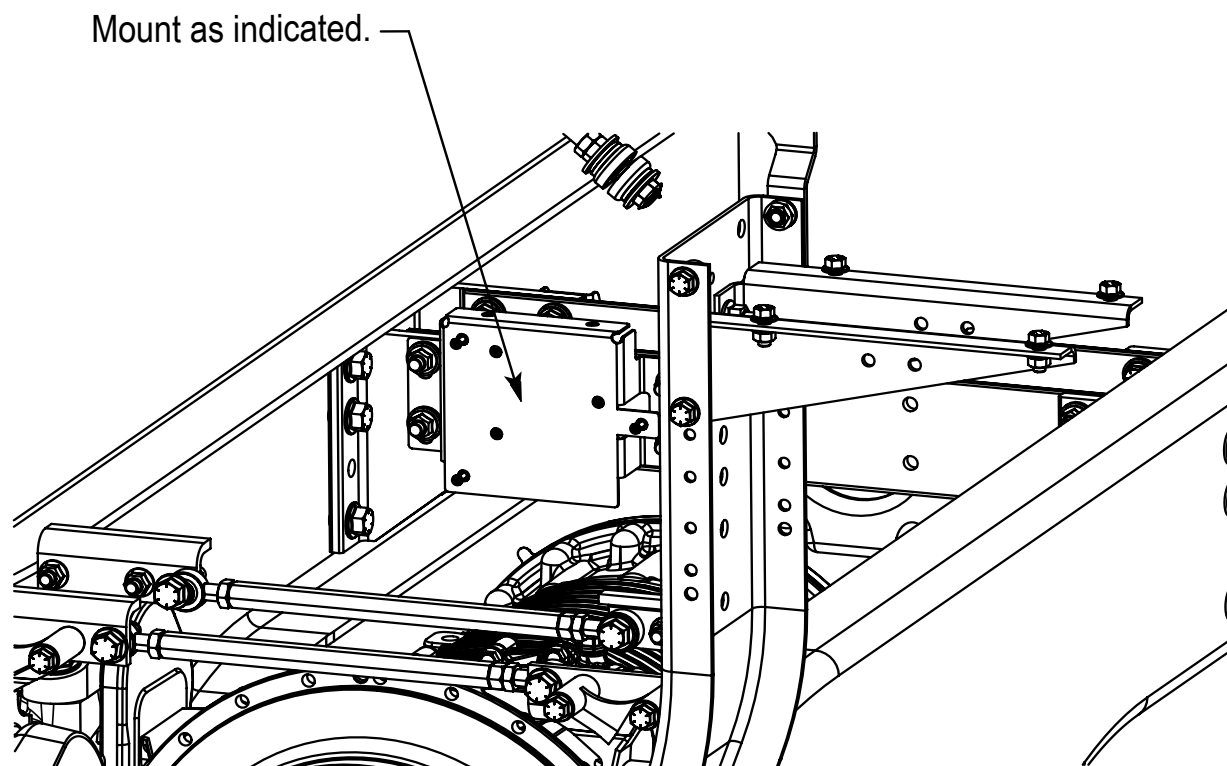

Figure 17
- Install ABS Control Module Mounting Bracket (A7471051-001) using Screws (GZ030007-006) (Figure 17).